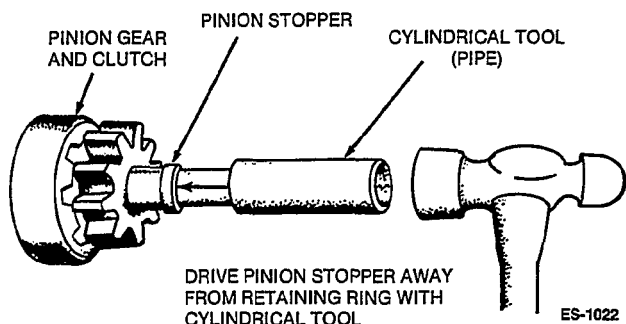

FIGURE 38. PINION GEAR AND CLUTCH REMOVAL
5. To remove the pinion gear and clutch from the armature shaft, drive the pinion stopper away from the retaining ring it holds in place (Figure 38). Remove the retaining ring and slide the pinion stopper, pinion gear and clutch off of the armature shaft.